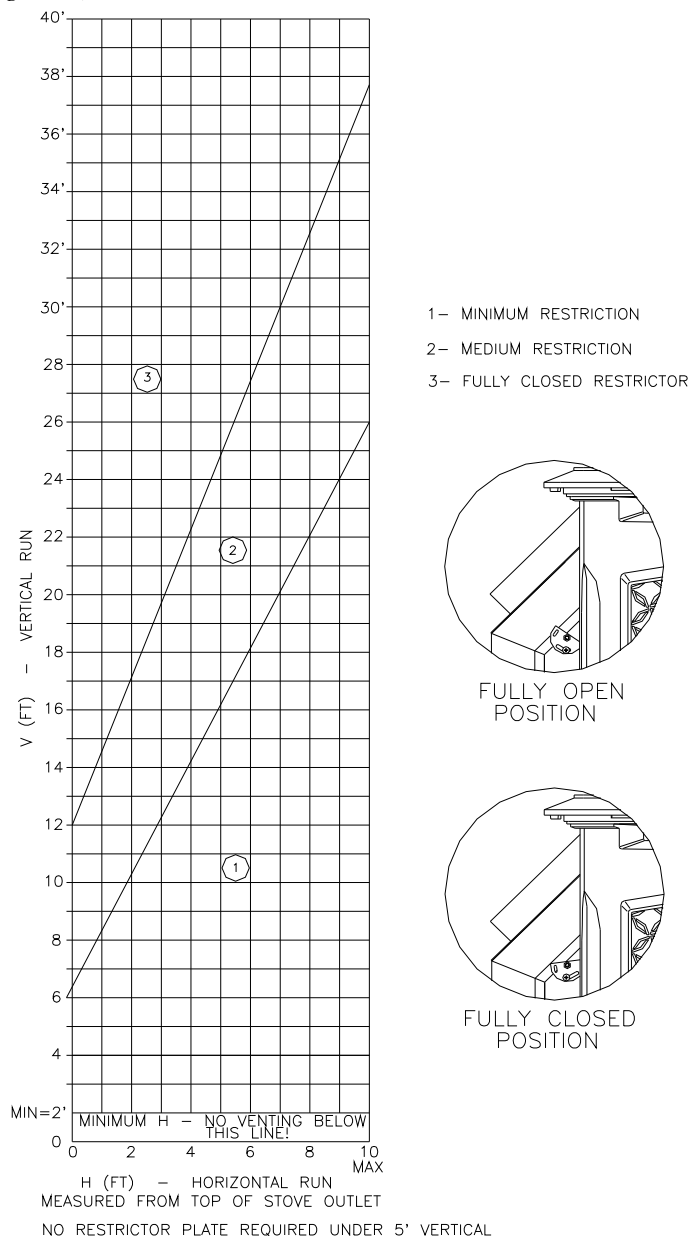

Figure 7
To adjust your restrictor for maximum flame appearance, loosen the Phillips head screw and spin the locator, found on the rear left side of the stove. (Refer to figure 7)
- The termination must fall within the area outlined in Figure 8 and the Chart in Figure 7.
- The termination must fall within the area outlined by the shaded area shown in *Figure 7*.